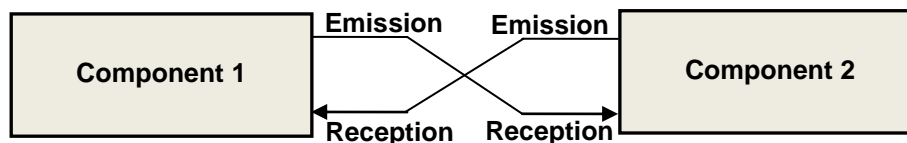

Figure 131 : Cross field for Inputs/Outputs
- ◆ Click on the column **Crossfield** to define a flow crossing (Figure 131)